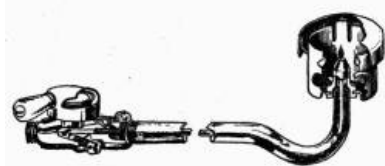

FIG. 8. Pilot light for gas stove.
17. Pilot for Top Burners. A pilot made for top burners (Fig. 8) burns continuously with a very tiny flame. Its purpose is to save gas, patience, dirt and matches. The saving comes because the housekeeper can so easily re-light the burners that she will turn them out whenever she is not needing the fire. Sometimes when the gas pressure is low, the pilot light will go out. It can be re-lighted by pressing the valve as for lighting the burners and touching a match to it. If the pilot goes out, the odor of gas will be noticed in the kitchen until it is re-lighted.